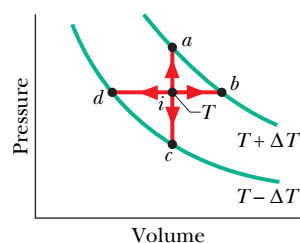

Fig. 20-19 Question 1.
**1** Point  $i$  in Fig. 20-19 represents the initial state of an ideal gas at temperature  $T$ . Taking algebraic signs into account, rank the entropy changes that the gas undergoes as it moves, successively and reversibly, from point  $i$  to points  $a$ ,  $b$ ,  $c$ , and  $d$ , greatest first.